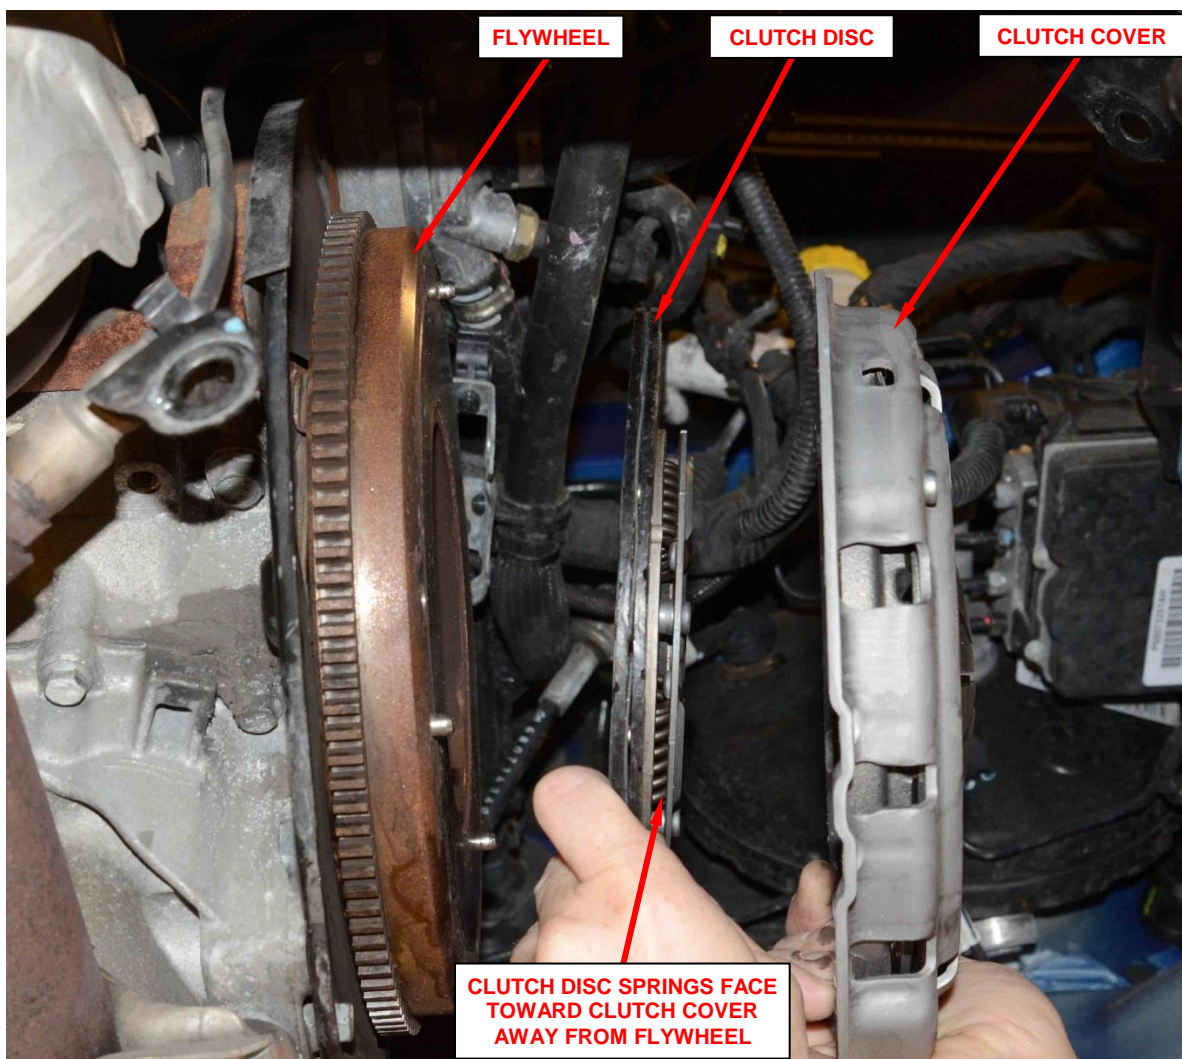

Figure 63 – Assemble Clutch Disc and Clutch Cover to Flywheel
73. Position the clutch disc and clutch cover to the flywheel (Figure 63).
NOTE: Clutch disc springs must face toward the clutch cover and away from the flywheel (Figure 63).